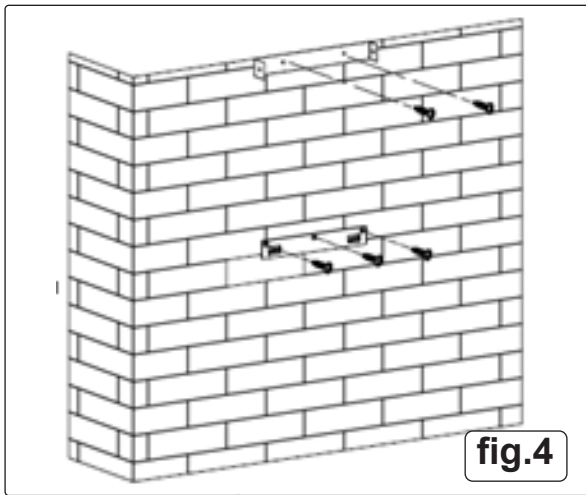

fig.4
- Drill 5 Ø8mm holes on a suitable place to accommodate the hook and inside chimney bracket once the installation height is fixed, keep it in line. The fixed position of the inside chimney bracket is the place of chimney. See fig.4.
- Screw and tighten the hook onto the wall with the 3pcs screws (4mm x 40 mm) and wall plugs provided. Then use 2 pcs **ST4*40mm** screws to fix the inside chimney bracket. See fig.4.